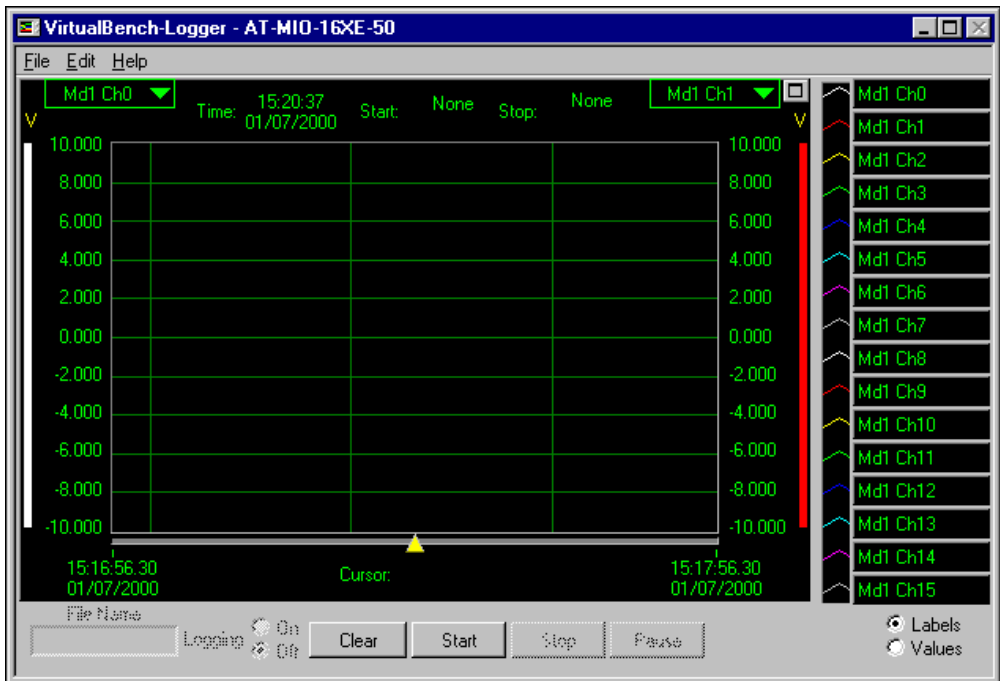

**Figure 7.** SCXI Module Accessory Tab
7. Click the **Accessory** tab shown in Figure 7. Set the **Accessory** option to SCXI-1303 and click **OK**.